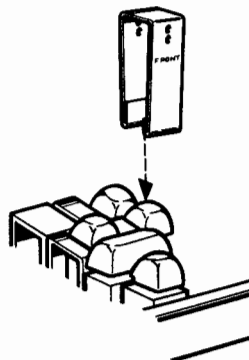

Fig. 6—Data Keytop Removal
- To remove data keytops, place 346260 tool over the keytop and pull up to remove (Fig. 6).